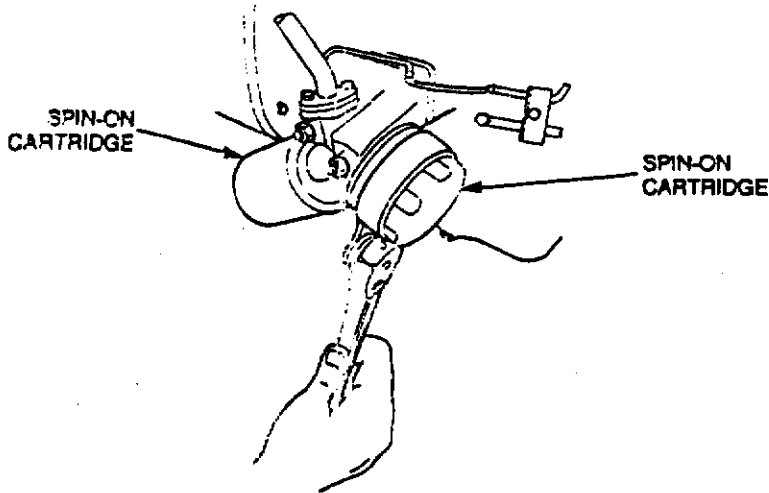

Figure 3-6 Oil Filter Removal
**324.** Unscrew each oil filter cartridge counter-clockwise, using a suitable oil filter removing tool if necessary (see Fig. 3-6). Apply a film of clean engine oil on the rubber seal of each new filter cartridge and install each filter. After the filter seal contacts the adaptor, tighten the filter a further half a turn by hand only.